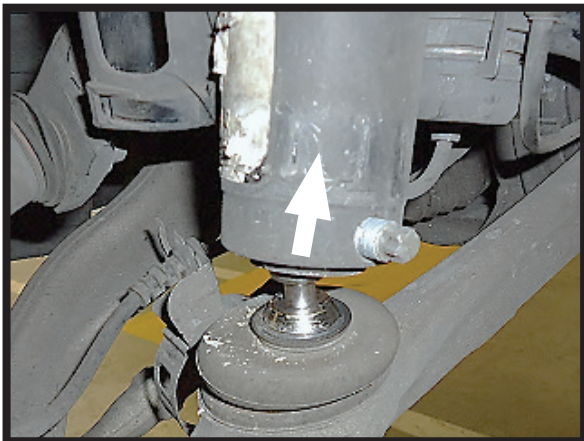

FIGURE 16
10. PULL DOWN ON THE SPINDLE ASSEMBLY, AND REMOVE THE AIR STRUT FROM THE VEHICLE. (FIGURES 16, 17)